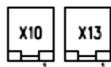

Fig. 31
6. Select the two free connections on the board to connect the new batteries (X10 and X13 or X11 and X14, Fig. 31).